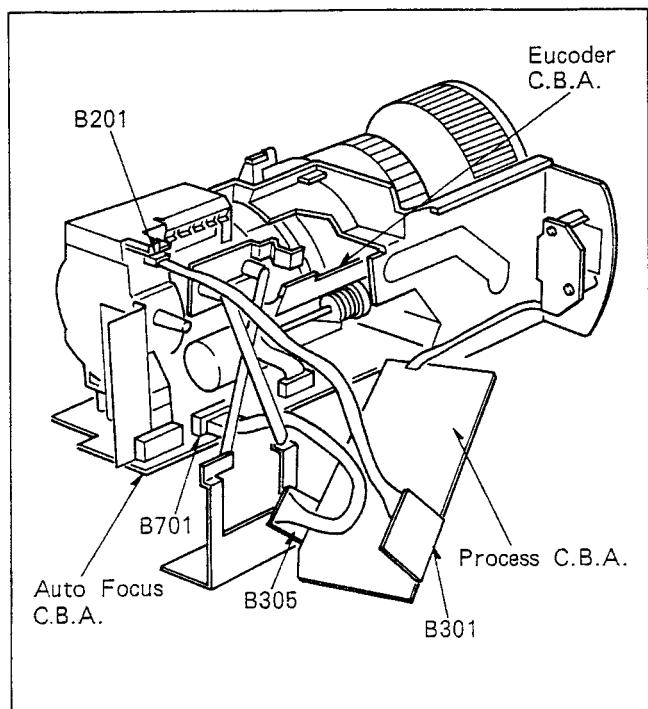

Fig. T4
When servicing the Camera Section, connection of 18Pin Extension Cables (B) (VFK0380X2pcs) is necessary as shown in Fig. T4.